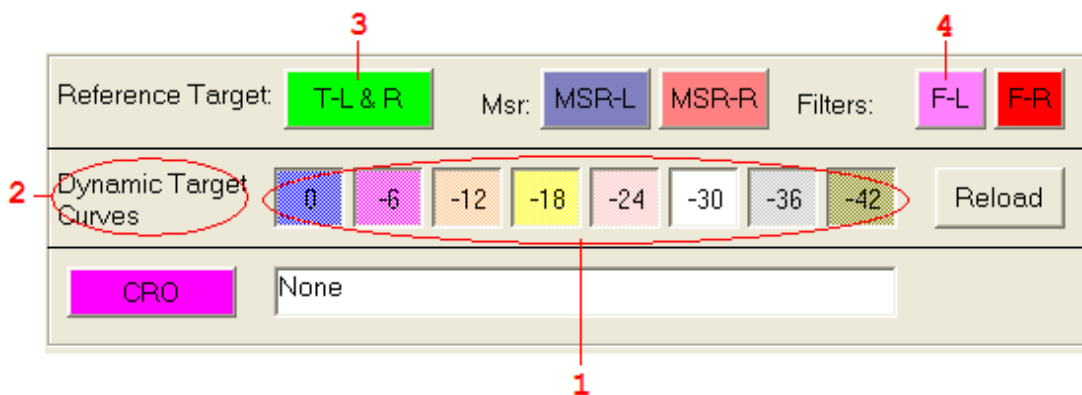

Fig. 6. Target curve panel.
Note that dynamic target curves (equal loudness curves) contained in the *Equal_Loudness_Minus_12dB_Ref.grp* group file are loaded in dynamic target curve buffers (Fig. 6. option 1) only and not in 2150 XDM internal memory. To display loaded dynamic target curves click on individual target button (1) or double click over (2) to toggle dynamic target curves ON and OFF.
Click on **T-L & R** button (Fig. 6. option 3) to display reference target curve. Place mouse pointer over (3) and then right mouse click to display target curve menu (Fig. 6).
To load correction filter response click on **F-L** button (Fig. 6. option 4) and then right mouse click to display **Load Filter** menu option. Click on **Load Filter** option to upload correction filter response.